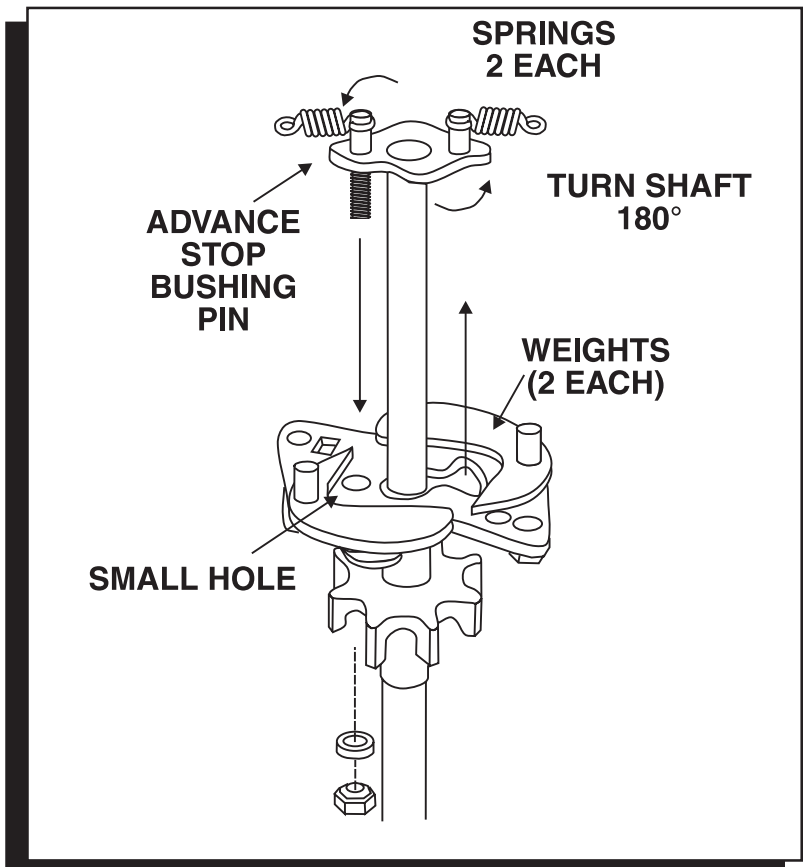

Figure 6 Changing the Advance Stop Bushing.
4. Rotate the shaft 180° and insert the advance stop bushing pin into the small hole on the advance plate (Figure 6).